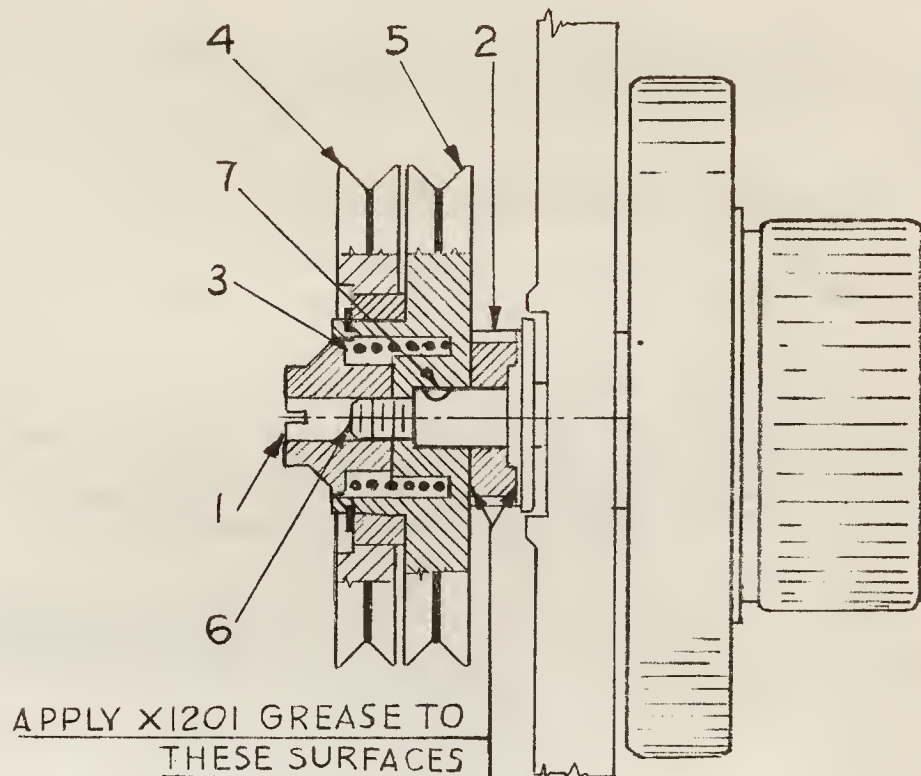

FIG. 7
* (G) Assembler Star Friction (Fig. 7)